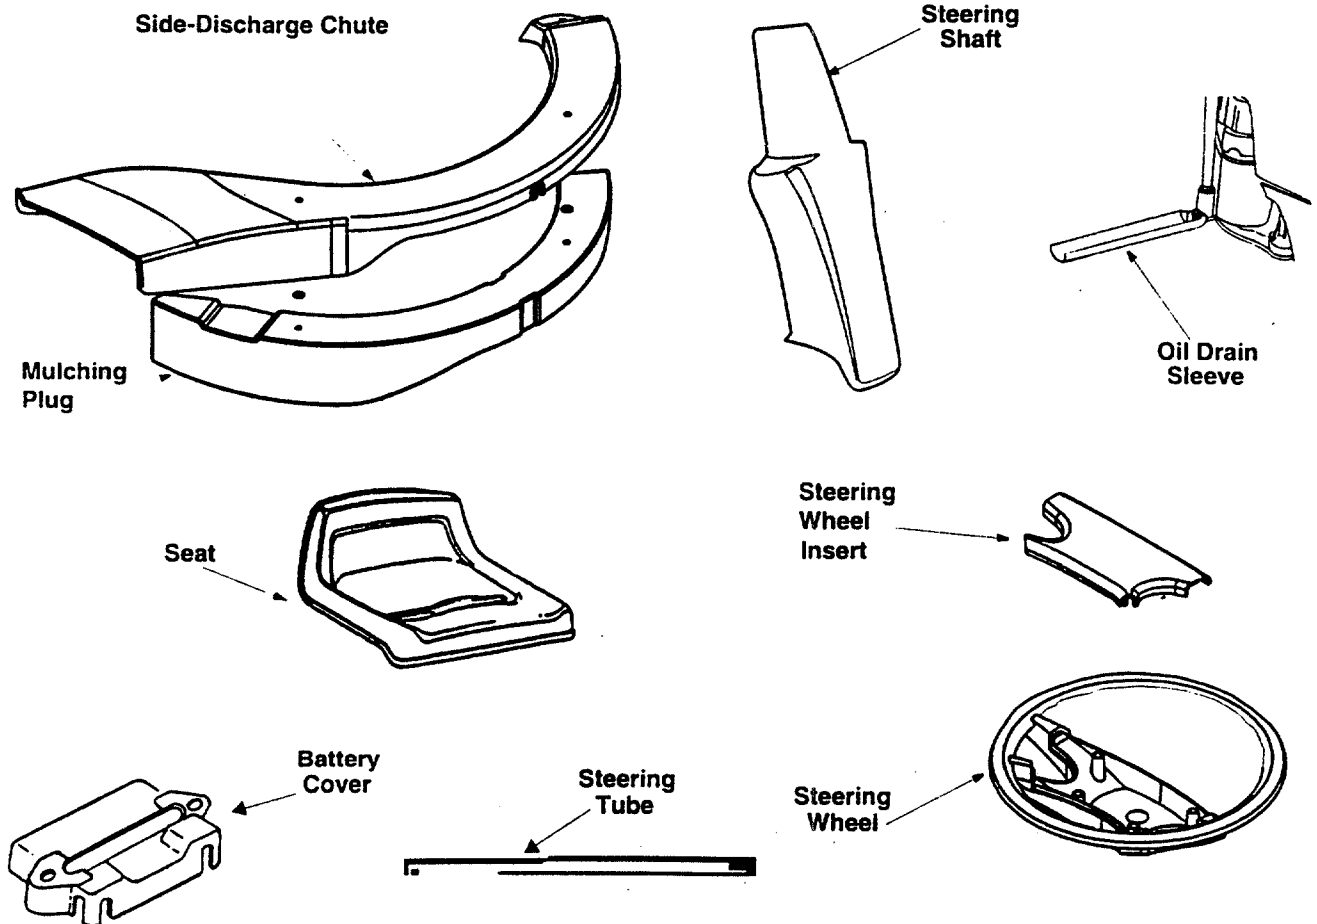

Figure 1
You will find the following loose parts in the crate. To identify these parts, see Figure 1. Remove loose parts very carefully so as not to damage or lose any.
2. Owner's manual (not shown in Figure 1)
6. Battery acid pack (not shown in Figure 1)
8. Ignition keys (not shown in Figure 1)